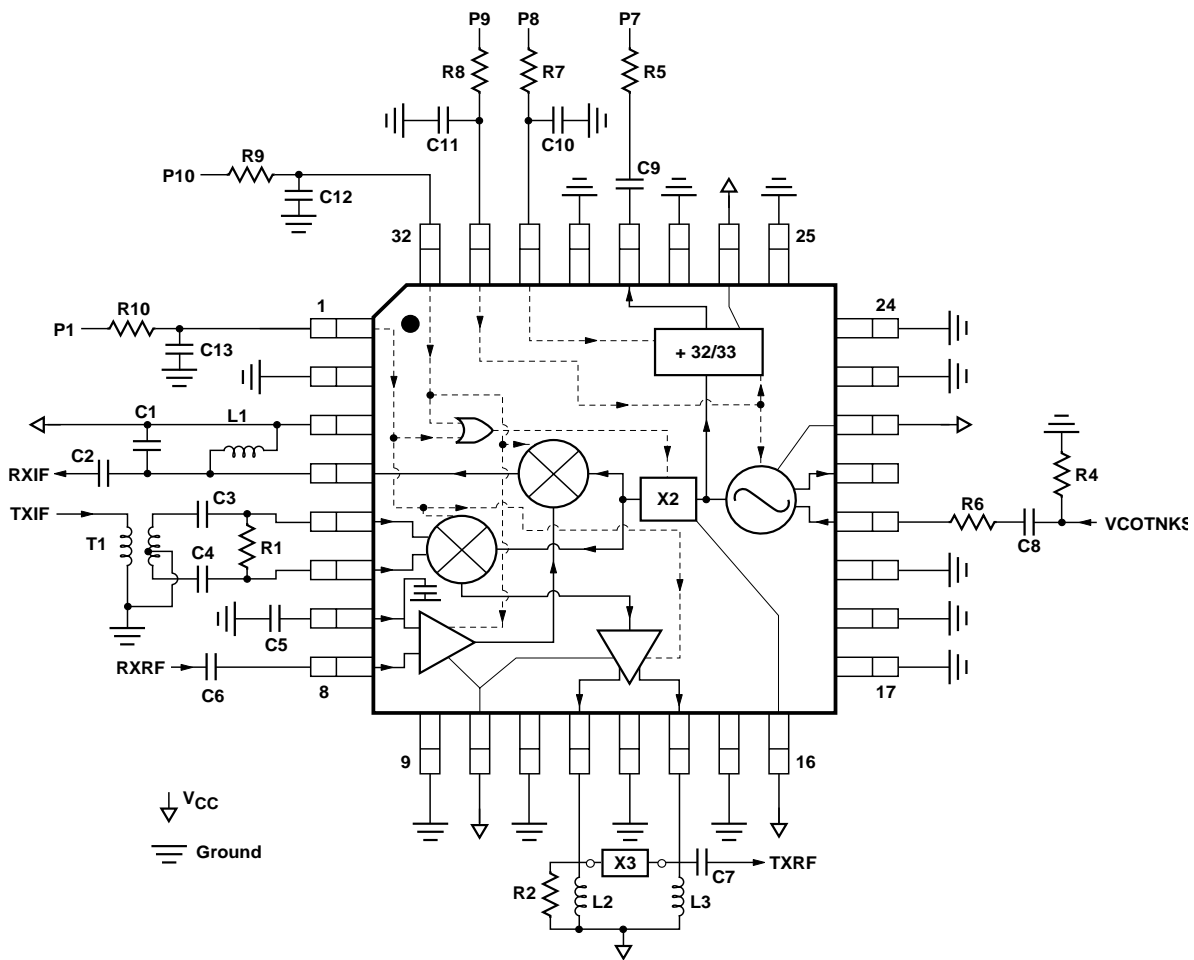

Figure 28. Test Board Schematic Diagram. All I/O Labels Correspond to Those on the Test board. See Table 3 for Component Values.
- DIV output AC coupled into a $2\text{ k}\Omega \parallel 10\text{ pF}$ load. See test diagram, Figure 28.
Table 3. Test Board Components Shown in Figure 28.
For transmit upconversion, a differential narrow-band modulated signal is AC-coupled into the TXIF and TXIFB inputs. The differential signal may be generated by the HPMX-5002 IF Demodulator/Modulator. Once on-chip, the signal is buffered and applied to a double-balanced Gilbert cell mixer. The upconverted RF signal is then amplified to generate a -0.6 dBm single-ended, single-sideband power signal at the 1 dB compression point. The RF outputs, TXRF and TXRFB, are open-collector outputs (see test diagram Figure 28 for recommended matching network). The TXRF output is AC-coupled into a 50 Ω transmit filter. This signal is then filtered and amplified off-chip by an external power amplifier before it is switched into the antenna. The HPMX-5001 may also be used in DECT systems which utilize direct modulation of the 1LO for data transmission. In this case, either the TXIF or TXIFB input, but not both, must be tied to V_{CC} to cause the upconverting mixer to act as a buffer stage.
In receive mode, a preamplified RF signal is passed through an image filter and applied as a single-ended signal to the 50 Ω RXRF input. Use of a 2.7 pF blocking capacitor is recommended. RXRF is the non-inverting input of the RF input amplifier. The inverting input of this amplifier, LNAREF, is self-biased and requires only an external capacitor (recommended value of 3.3 pF) to ground. The receive downconversion mixer also employs a double-balanced Gilbert cell configuration. The production version of the HPMX-5001 will have two equivalent open collector outputs. The HPMX-5001 can operate at IF frequencies up to 300 MHz (see Figure 28 for recommended matching network).